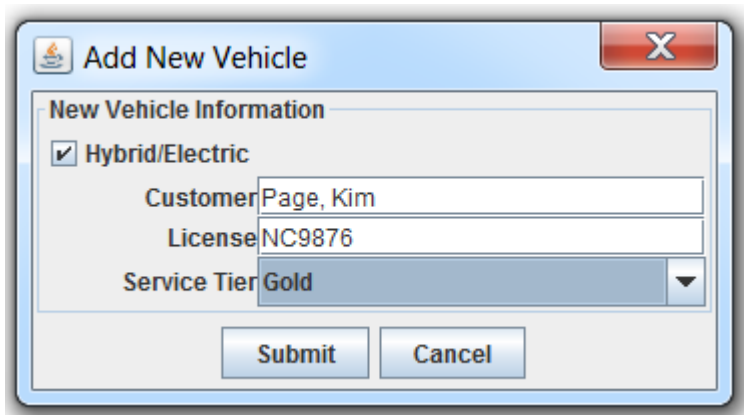

Figure 2: Adding a vehicle to the Vehicles Awaiting Service area
2. When an owner brings in a vehicle for service, the service manager creates an entry in the Vehicles Awaiting Service list that includes the owner name, the service plan, and whether the vehicle is regular or hybrid/electric. **Figure 2 below shows entry for a hybrid vehicle with a Gold tier service plan.**
1. Admit a new vehicle for repair service. Vehicles are characterized by type (regular vs hybrid/electric), service tier, owner name, and license. See Figure 2 above.